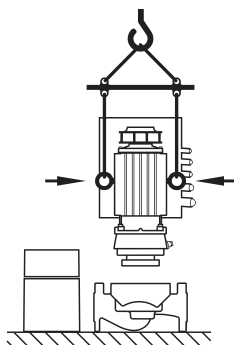

Fig. 25: Transporting the motor impeller unit
- **If the transport eyes have been moved from the motor flange and installed at the motor housing, then they are only approved for carrying or transporting the motor impeller unit (Fig. 25) and not for transport of the whole pump and not for separation of the**